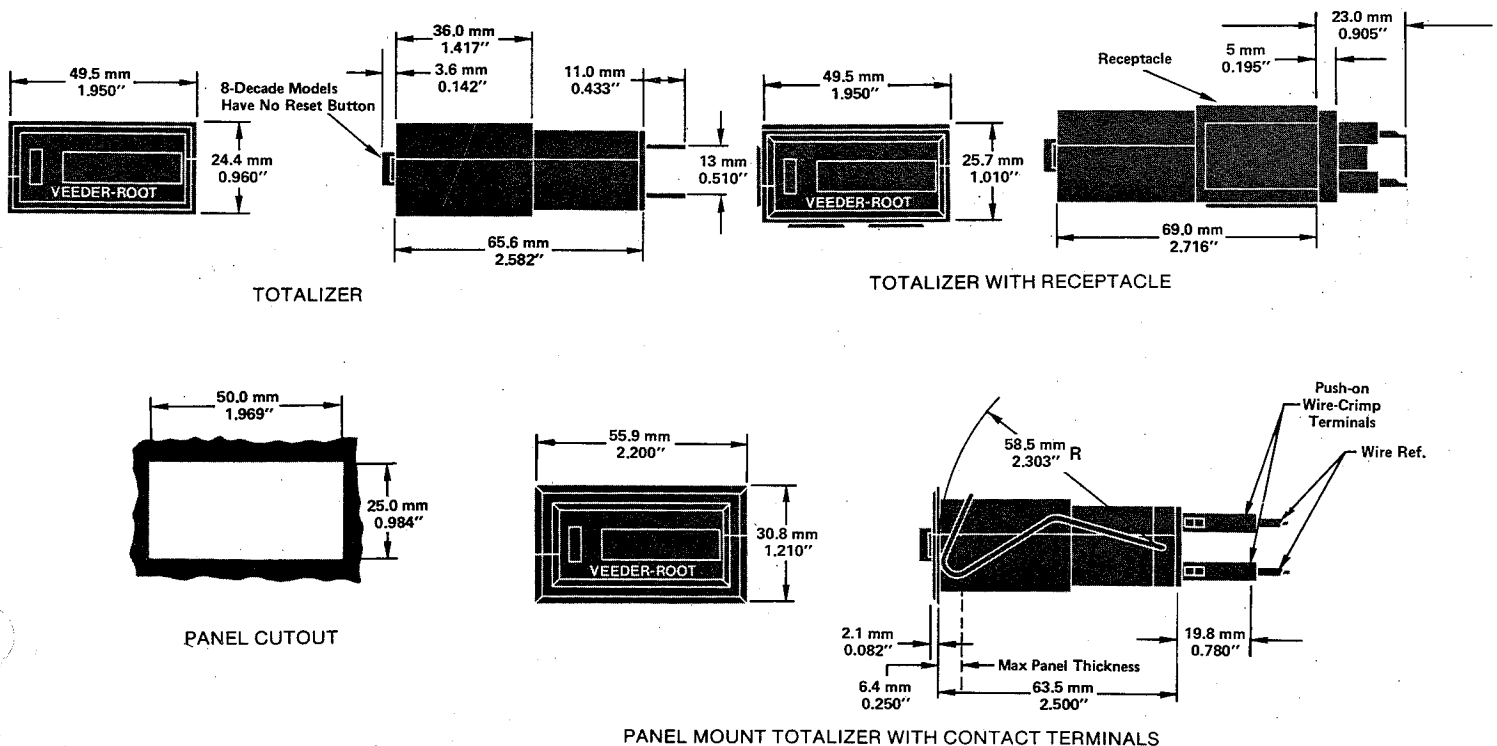

Figure 1. Mounting Dimensions.
B. PANEL MOUNT INSTALLATION. Cut opening in panel per Figure 1.